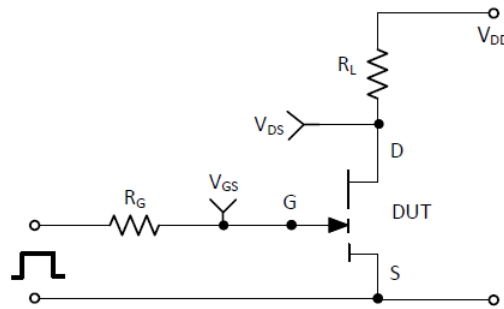

Figure 16: switching time test circuit
(5) See Figures 16 and 17 for timing test circuit diagram and definition waveforms